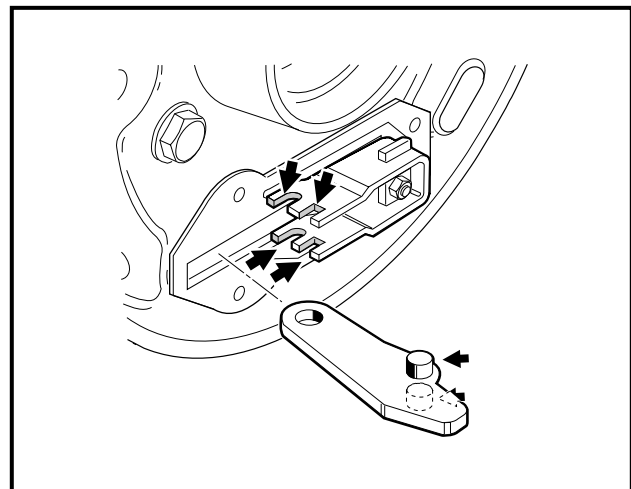

Figure 6-22 Lubricate Actuator
6. Use a small brush to carefully apply a light coat of white lithium NLGI #2 grease (Dow Corning BR2-Plus or equivalent) to the brake actuator assembly as shown (Figure 6-22, Page 6-11). See preceding WARNING.